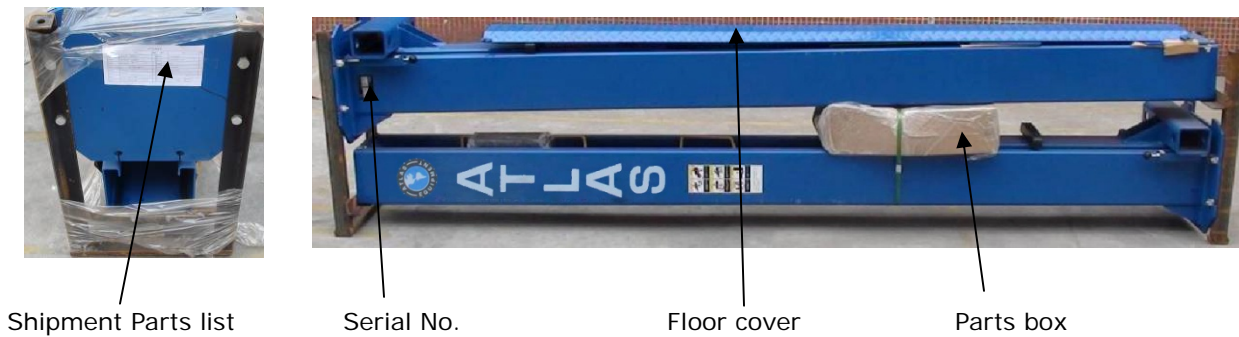

Fig. 10
2. Move aside the lift with fork lift or hoist, and open the outer packing carefully (See Fig. 10).